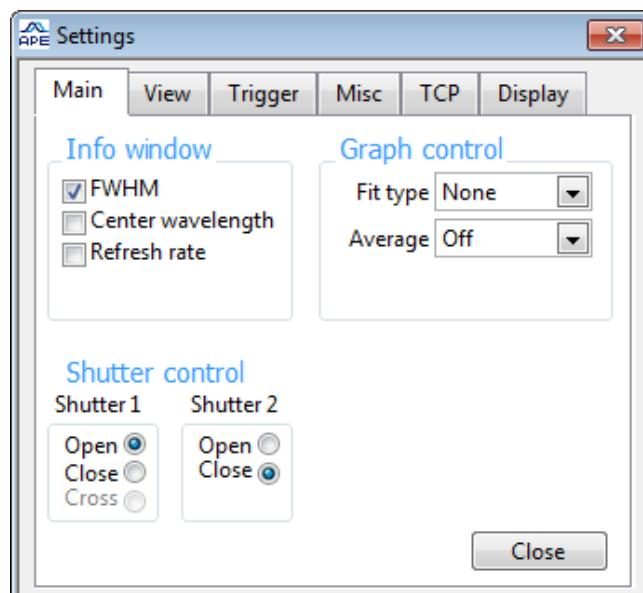

Figure 5.10.: "Main" tab of the "Settings" window with "shutter control"
16. Check beam alignment using the internal beam shutters. To do so, open the "Settings" window (double click into the measurement window or select "Settings" from the "Extras" drop down menu of the menu bar) and locate the "shutter control" section on the "Main" tab. (see Figure 5.10).